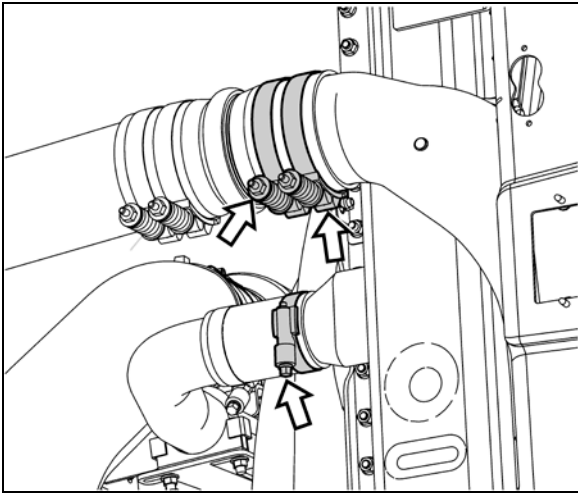

FIGURE 25: FRONT COOLANT & CHARGE AIR PIPES
10. Remove clamps and then break hoses from the front coolant and charge air pipes (Figure 25).